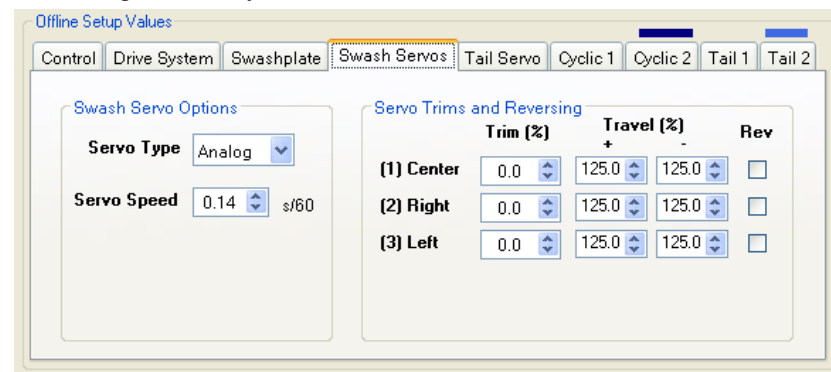

Figure 11.6 – Offline Setup Values *Swash Servos* Tab
- Go to the *Swash Servos* tab in the *Offline Setup Values* area in the lower half of the setup software window (see Figure 11.6 below). Select the servo type and speed according to the specifications of your servos. Use the default servo speed if you don't know what setting to use for your servos.
- Use the collective stick to check that all swashplate servos are correctly synchronized. (i.e. all swashplate servos move up and down together in response to collective stick motion.) If the swash plate servos are not correctly synchronized, then you can reverse the individual servo directions by clicking on the associated *Rev* checkbox in the *Servo Trims and Reversing* area of the *Swash Servos* tab. (See Figure 11.6 above.)